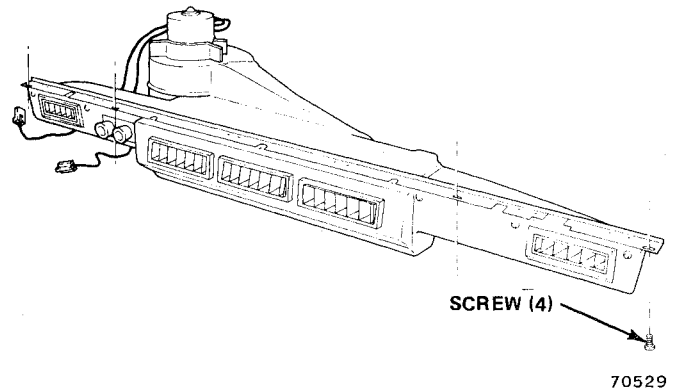

Fig. 3E-18 Evaporator Housing Mounting—CJ
- (1) Discharge system.
- (2) Disconnect inlet (suction) line at compressor.
- (3) Disconnect receiver/dryer-to-evaporator hose.
- (4) Remove hose clamps and dash grommet retaining screws.
- (5) Remove evaporator housing-to-instrument panel attaching screws and the evaporator housing-to-mounting bracket screw (fig. 3E-18).
The blower motor, blower motor housing, and evaporator core may be serviced after the evaporator housing is removed (fig. 3E-19).